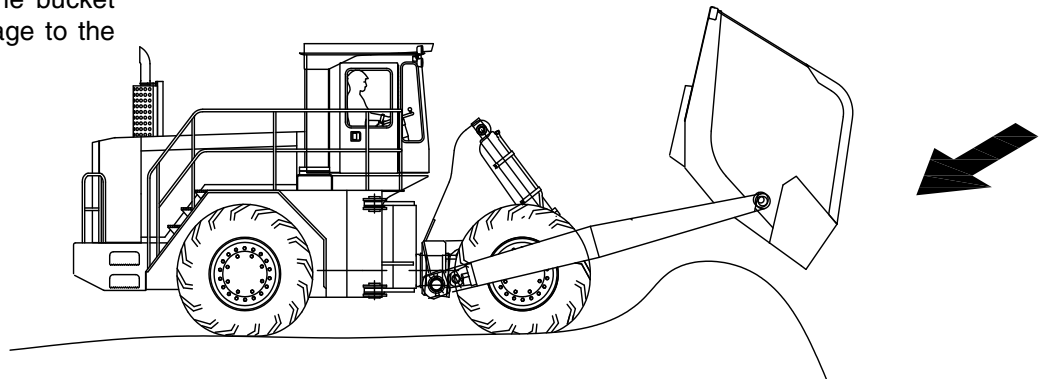

Fig. 5-15
2. You can back blade with the bucket tilted forward, with no damage to the machine. See Fig. 5-15